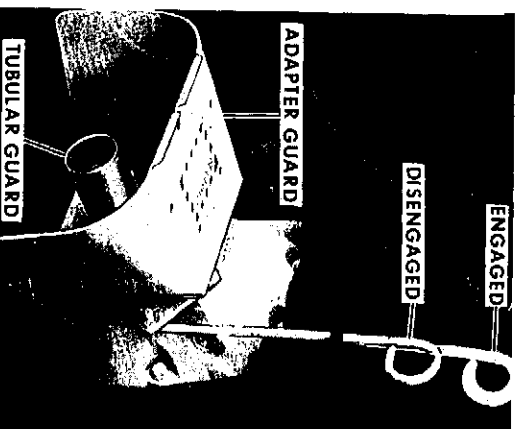

Figure 38
**NOTE** With either Standard or Constant-Running PTO the operation of the output shaft and control lever remain the same, Figure 38.
To stop tractor travel and continue operating PTO - disengage hand clutch Figure 38 A.